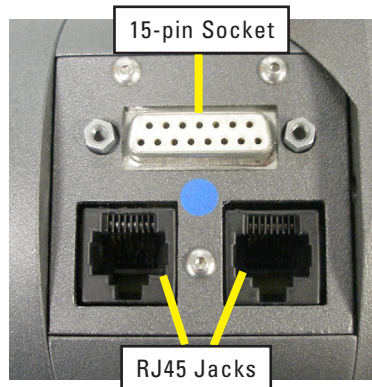

Figure 10-13. UTM Electronic Connector Board
Step 1. Locate the electronic connector board on the underside of the UTM base (there is one 15-pin serial socket and two RJ45 jacks) (Figure 10-13).